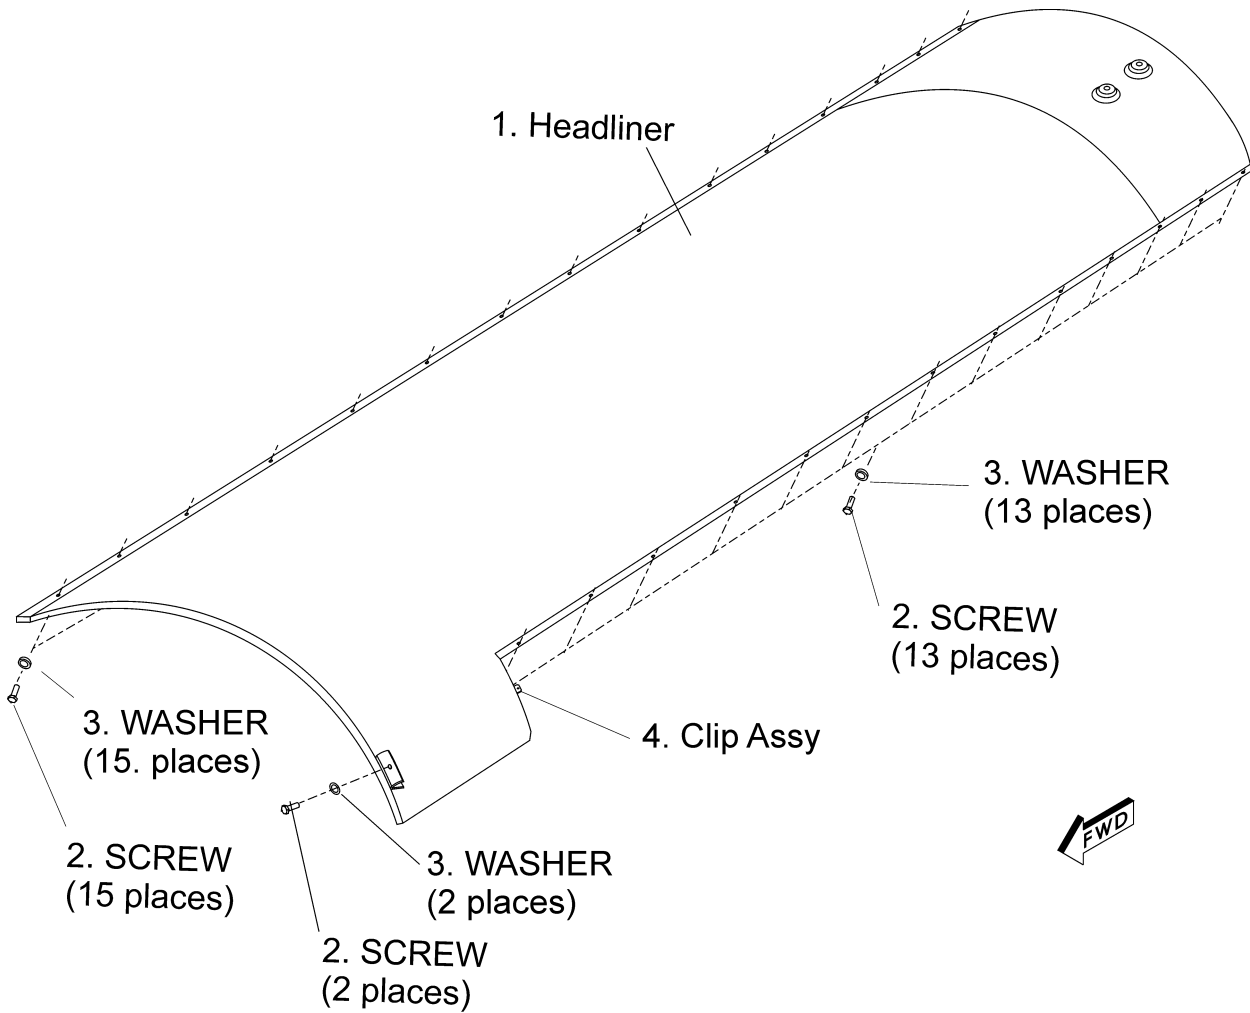

Fig. 224 - Headliner - Removal/Installation
40. Headliner - Removal (Ref. to Fig. 224)
- (2) Remove the right and left louver panel systems from the ceiling of the passenger compartment, as described in this section.
- (3) Remove the screws (2) and the washers (3) that secure the headliner (1) to the airplane ceiling.
- (4) Remove the headliner (1).
41. Headliner - Installation (Ref. to Fig. 224)